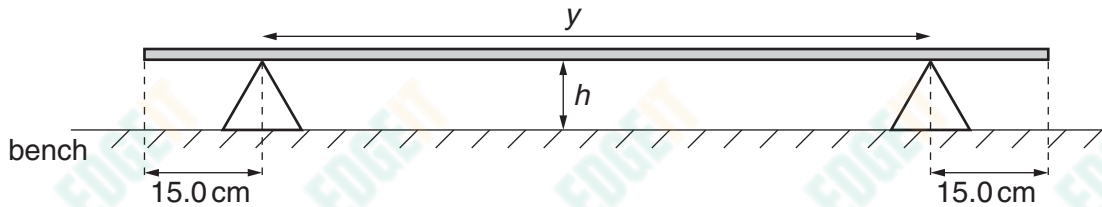

Fig. 2.1
- (a) (i) Position a metre rule on the two supports as shown in Fig. 2.1, with the supports 15.0 cm from each end of the rule.